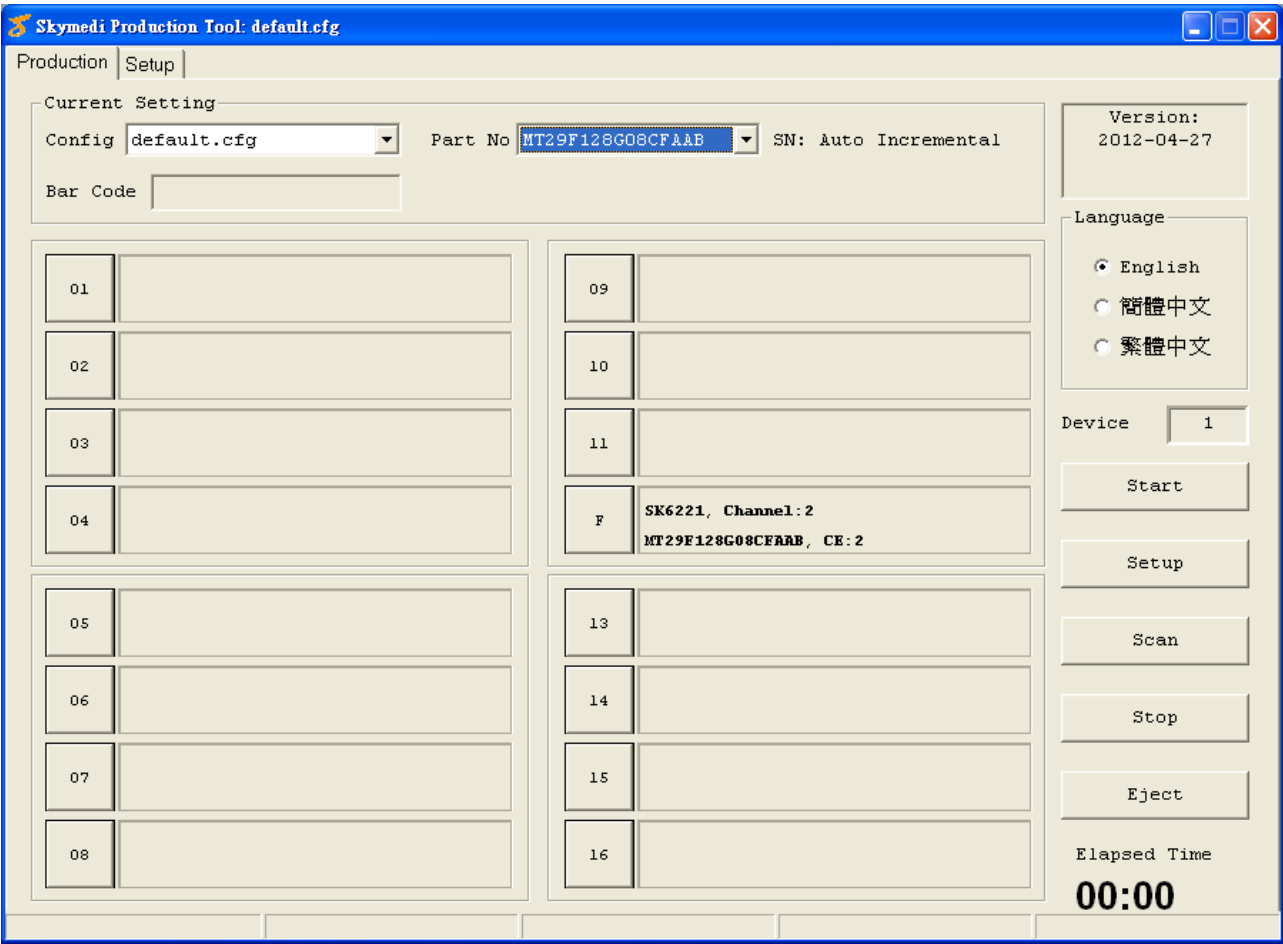

Figure-47 : Manual Port Mapping-5
5. Slot Mapping on production page, Figure-47